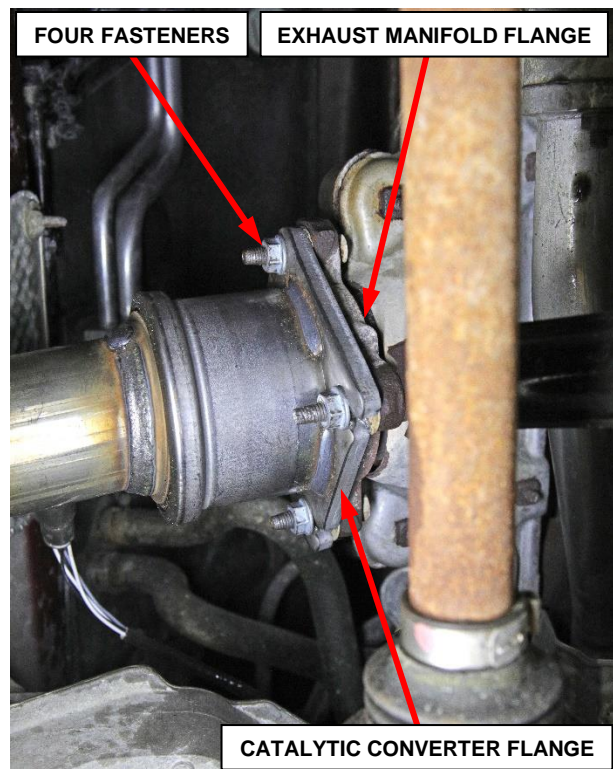

Figure 8 – Catalytic Converter to Exhaust Manifold Fasteners
10. Apply penetrating oil to the fasteners that connect the catalytic converter to the exhaust manifold. Allow time for penetration while removing the muffler resonator pipe assembly (Figure 8).